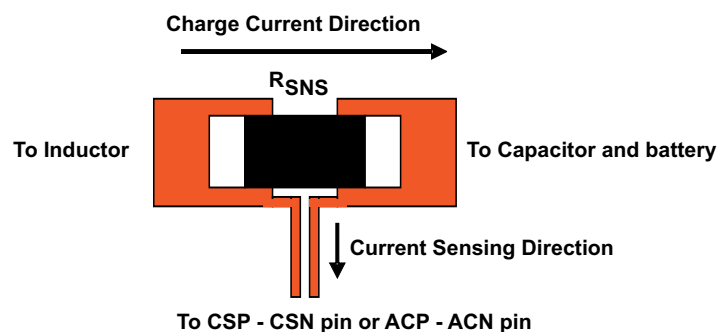

Figure 36. Sensing Resistor PCB Layout
4. The charging current sensing resistor should be placed right next to the inductor output. Route the sense leads connected across the sensing resistor back to the IC in same layer, close to each other (minimize loop area) and do not route the sense leads through a high-current path (see Figure 36 for Kelvin connection for best current accuracy). Place decoupling capacitor on these traces next to the IC.